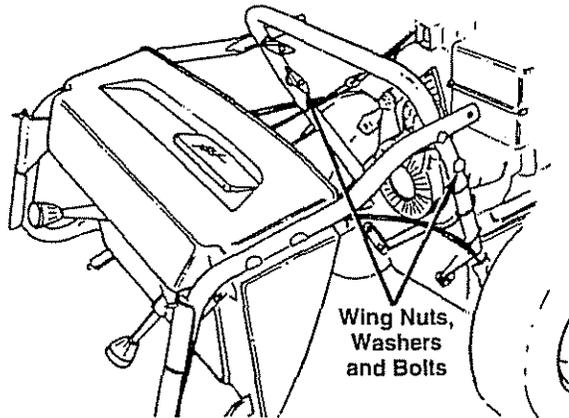
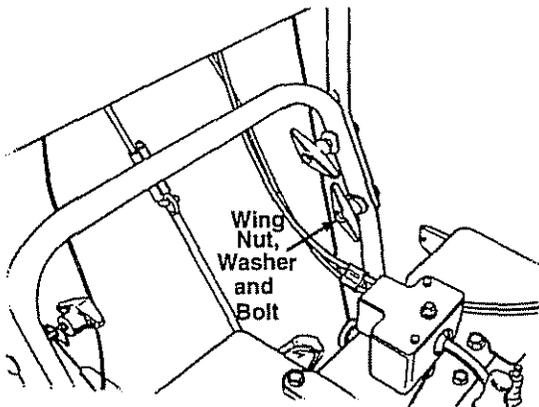

Figure 1
Figure 2
5. Remove the **lower** two plastic wing nuts, cupped washers and carriage bolts from each side of the lower handle. See Figure 1.
7. Raise the upper handle assembly until it locks over the lower handle. See Figure 1 and Figure 2.
9. Secure the upper handle and lower handle with the two plastic wing nuts, cupped washers and carriage bolts previously removed. See Figure 2.